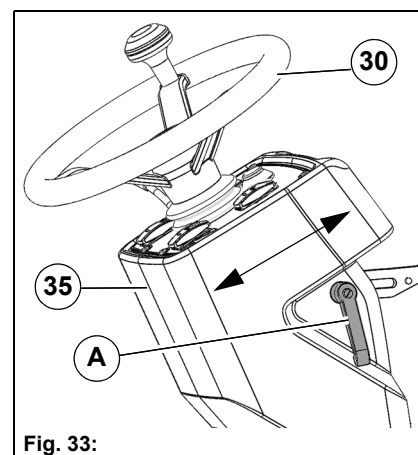

Fig. 33:
- Turn the lever **Fig. 33-A** counter-clockwise until the steering column is unlocked.